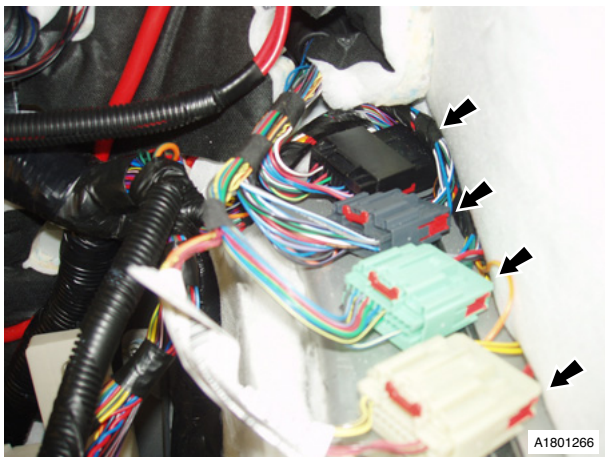

Fig. 6
35. Disconnect engine harness to main harness multiplugs (x4) (clipped to body) (see Fig. 6).